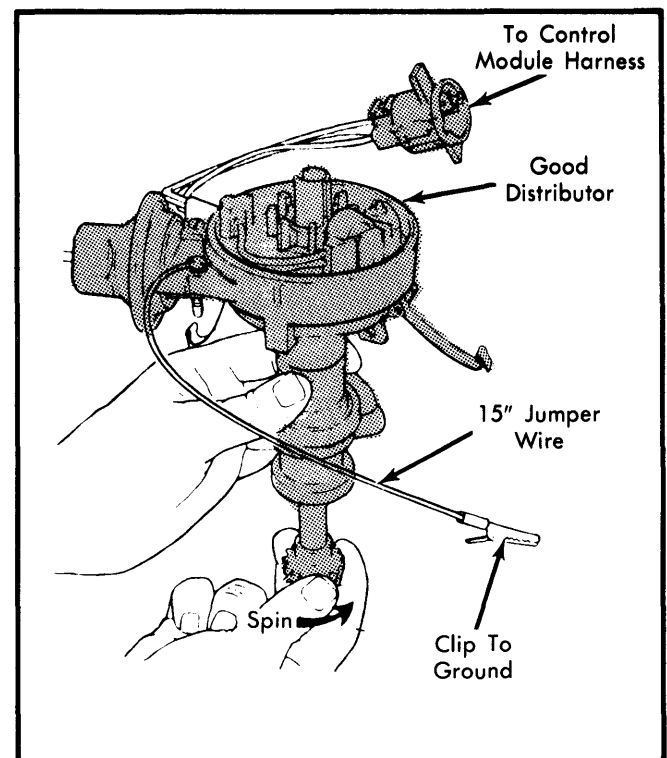

Fig. 7 Checking Control Module & Stator Using Known Good Distributor
1) Refer to step 1) of Coil Primary Circuit Check. If modified plug sparked, but engine would not run, substitute a known good distributor (ground but do not install). Spin gear and check for sparks. See Fig. 7.